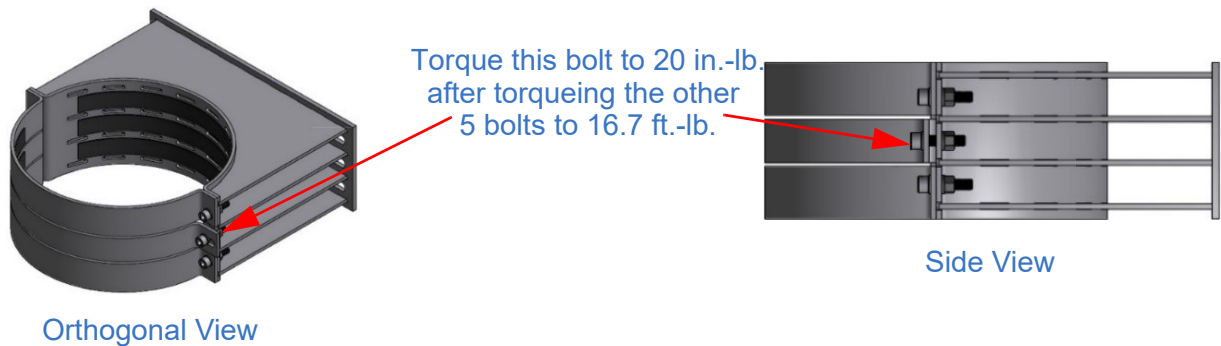

Figure 5-5 External Support Bracket P/N: 4894901 Installation
- P/N: 4894901: Torque the first five $\frac{3}{8}$ -16 bolts to 16.7 ft.-lb. (22 Nm) and final $\frac{3}{8}$ -16 bolt to 20 in.-lb. (2.2 Nm) (Figure 5-5). Only torque the final $\frac{3}{8}$ -16 bolt after torqueing the first five bolts.